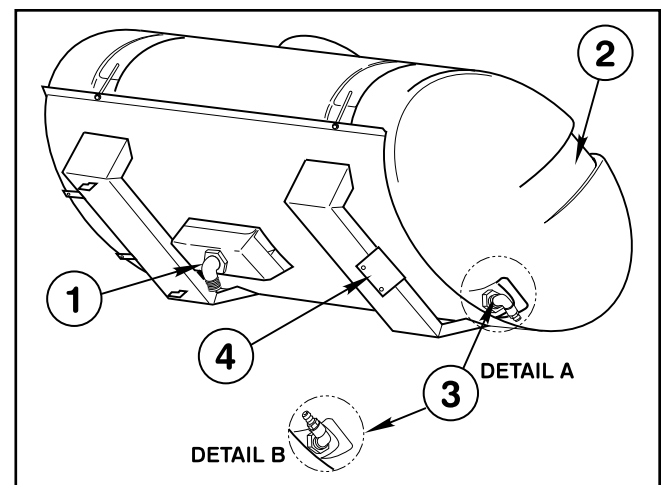
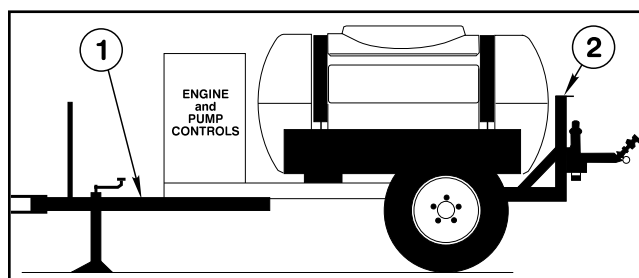
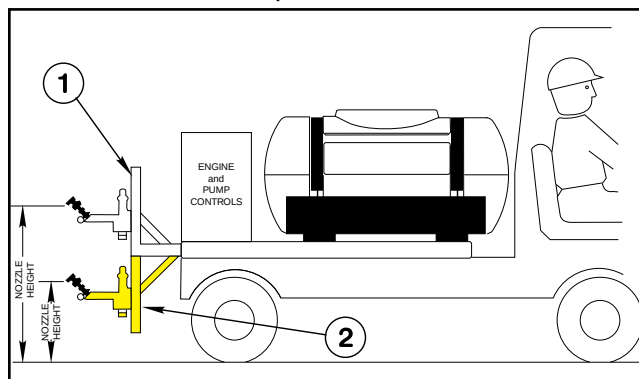

FIG. 2
FIG. 3
FIG. 4
3. Apply thread sealer and install the 90° barbed elbow into the bottom of the Tank. See FIG. 2.
4. Apply thread sealer and assemble the 90° St. elbow to the male Quick Coupler. Install the elbow into the fitting at the spill-way end of the Tank, so that it angles toward the outside of the Tank as shown in FIG. 2.
NOTE: If the Skid Sprayer is to be installed on a Trailer, (as shown in FIG. 3), install the Elbow and Quick Coupler in the Tank as shown in Detail "A" of FIG. 2. If the Skid Sprayer is to be installed on a Transport Vehicle (as shown in FIG. 4), install the Elbow and Quick Coupler as shown in Detail "B" of FIG. 2.
If the Skid Sprayer is to be equipped with the optional Trailer Package (Model No. 41415), mount the Boom as shown in FIG. 3.
a. If this distance is measured at 24" or less on your vehicle, install the Boom Mounts in the **upright** position. See FIG. 4.
4. Connect the Overflow Hose to the Quick Coupler in the spill-way end of the Tank (FIG. 2).